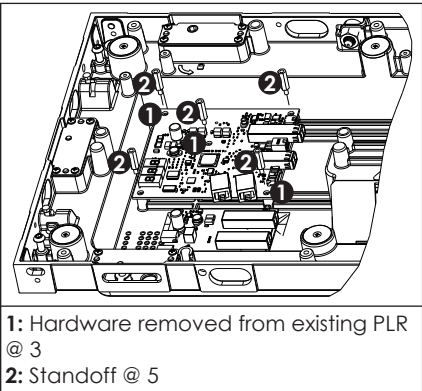

Figure 35: Remove Hardware
1. Use a Phillips screwdriver to remove the hardware (Daktronics part number HC-1012 @ 3) securing the existing PLR and set the hardware aside for **Step 3**. Refer to **Figure 35**.
2. Use a 1/4" socket or nutdriver to secure the supplied standoffs (HE-1262) in the existing PLR. Hand-tighten to 5 in-lbs. Refer to **Figure 35**.